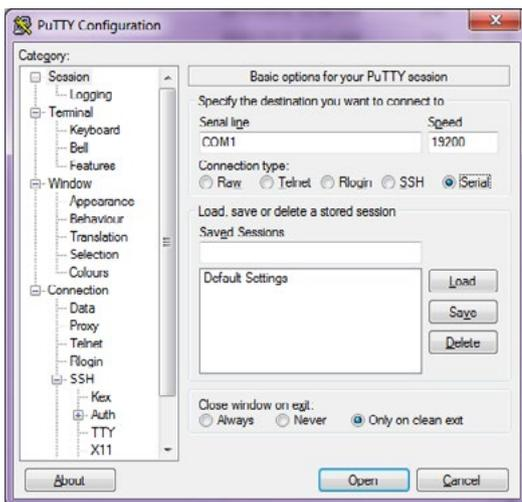

Figure 6- 2 PuTTY Configuration Dialog Box
Under Session, change the Connect Using Box to indicate which serial port (with USB cable COM5 is typical) will be used. The correct port can be found in the Windows Device manager. See Figure 6- 2.
- Click the Connection Option and then Serial (left side) and insert the correct numbers as shown below and in Figure 6- 2. Click OK to close the Configure Box and OK to close the Properties Box.